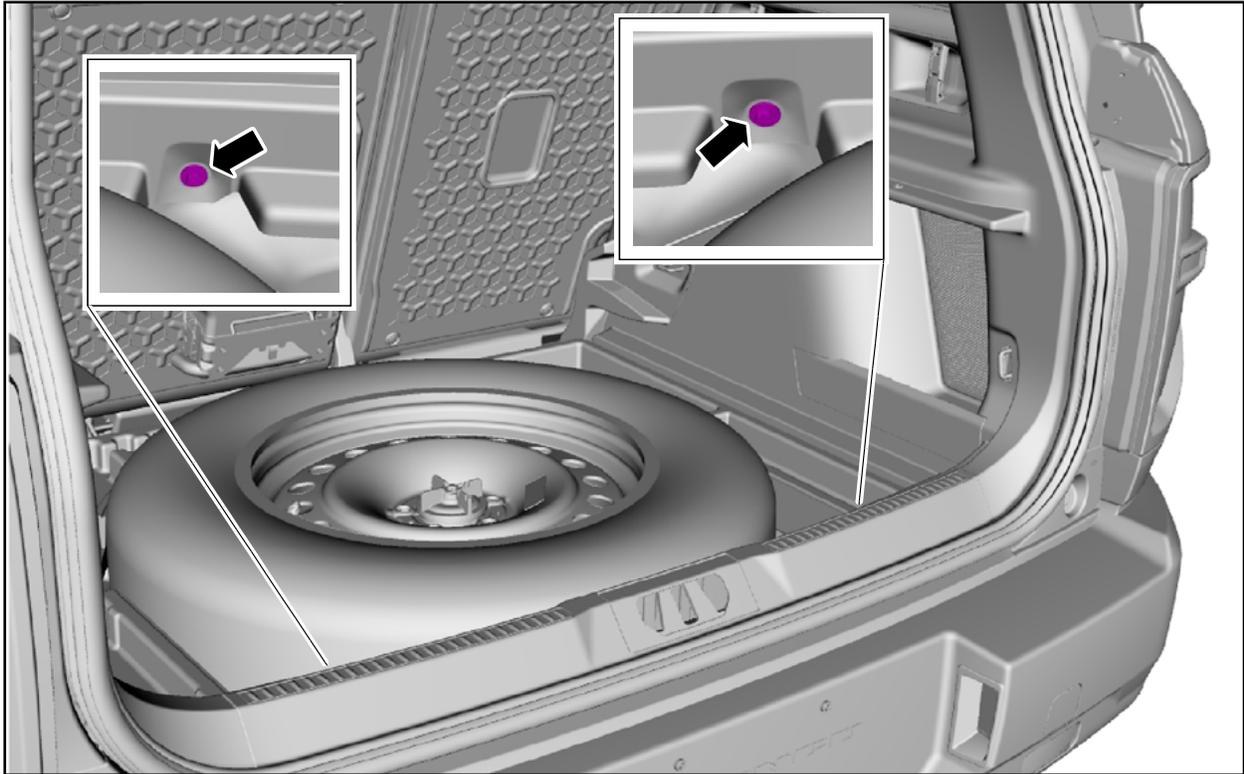

FIGURE 16
16. Remove the loadspace scuff plate trim panel bolts. See Figure 16.